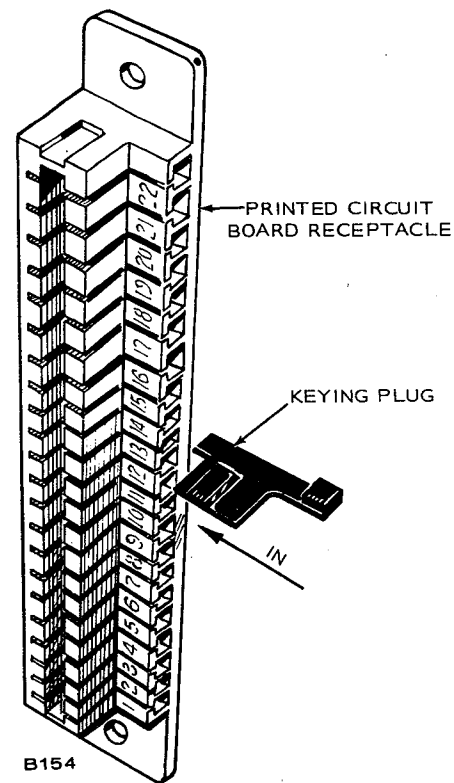

FIGURE 9. INSTALLATION OF KEYING PLUG
5. Install 332-1276 keying plug(s) in the slot(s) of the printed circuit board receptacle as needed. Figure 9 shows how a keying plug is inserted into the receptacle. See a control accessory panel wiring diagram showing location of the keying plug(s) for that particular module.